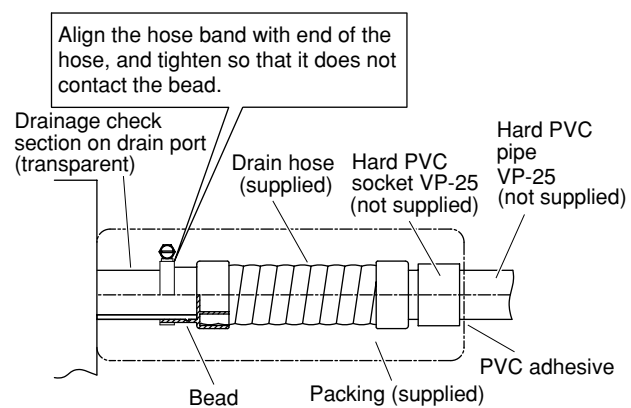

Fig. 3-105a
The transparent drain part on the unit allows you to check drainage. (Fig. 3-105a)
- **Tighten the hose clamps so their locking nuts face upward. (Fig. 3-105a)**